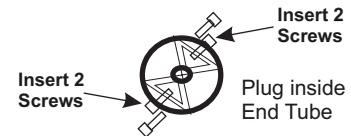

Fig. 7
- D. Push Plug into End Tube up to and EVEN with the opening then insert **TWO** #12 self drilling screw approximately 1" back from end of tube and through **EACH** 'lip' of Plug (see Fig. 7). (Drill small pilot holes.)